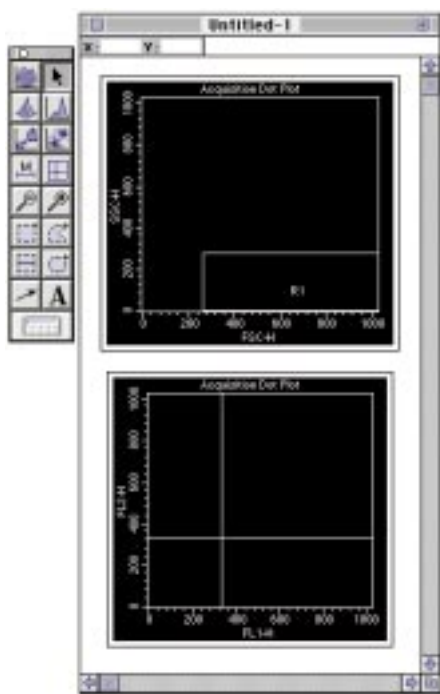

Figure 1 Dot plot set up for CELLQuest document.
3. In the FSC vs SSC dot plot, set a region R1 as shown in Figure 1 using the Rectangular-Region tool in the tool palette.
4. In the FL1 vs FL2 dot plot, choose Format Dot Plot from the Plots menu. Choose G1 = R1 from the Gate pop-up menu. Set fluorescence markers using the Markers tool in the tool palette (see Figure 1).